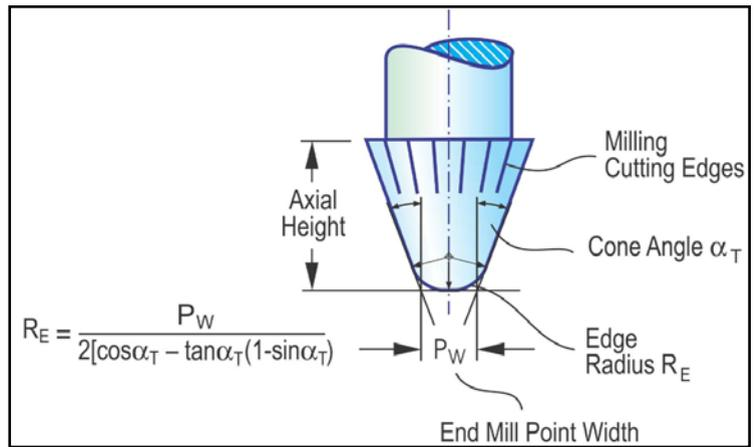

Figure 19 Fully rounded end-mill tip.
For the correct dimensioning of the edge radius  $R_E$ , it is advisable to calculate first the maximum possible edge radius for the given dimensions. In addition to the cone angle  $\alpha_T$ , the end-mill point width  $P_W$  is required. The end-mill point width should match the blade top width (item 09 in Fig. 18). A larger  $P_W$  can be used within limits, but  $P_W$  cannot be larger than the smallest point width of the gear slot (item 8 in Fig. 18, top). The formula (Fig. 19) is used to calculate the largest possible edge radius for the end-mill  $R_E$ . In the present case, using  $P_W = 1.84$  mm, the largest possible edge radius is  $R_E = 0.65 \times P_W = 1.2$  mm. After  $R_E$  is calculated, it has to be compared to the Edge Radius Pressure Angle Side (item 06 in Figure 18). If the result of  $R_E$  is smaller than item 06 in Figure 18, then the calculated number of  $R_E$  must be used for the end-mill.